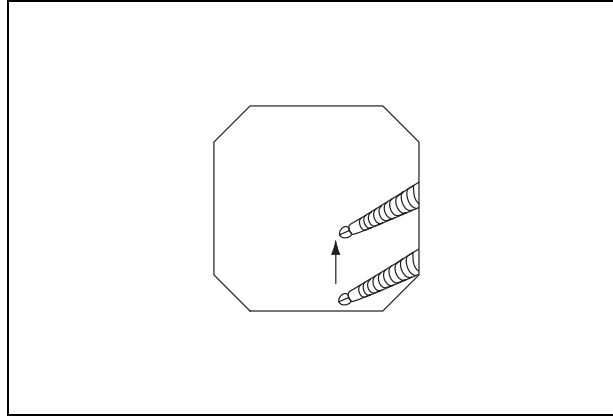

Figure 4.4
8. Manipulate the elevator control lever to adjust the height of the elevator (see Figures 4.4 and 4.5).